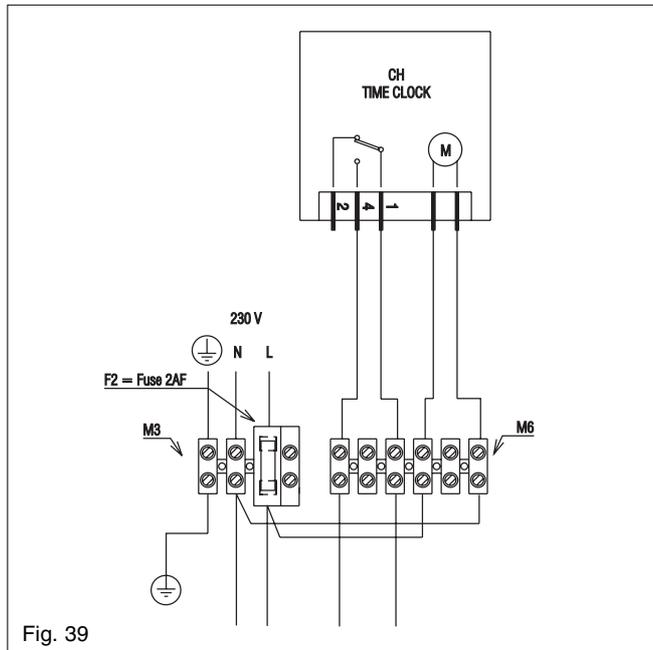

Fig. 39
- single-channel, voltage-free time clocks (fig. 39)
- programmable room thermostats (fig. 39)